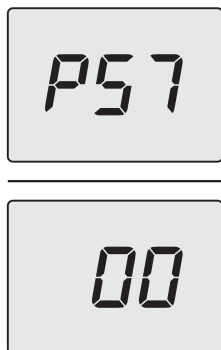

Figure 5.50
- Scroll through the various parameters by pressing the keys 12 (back) or 14 (forward), until **P57**, which alternates with the parameter value, appears on the LCD display (Figure 5.50).